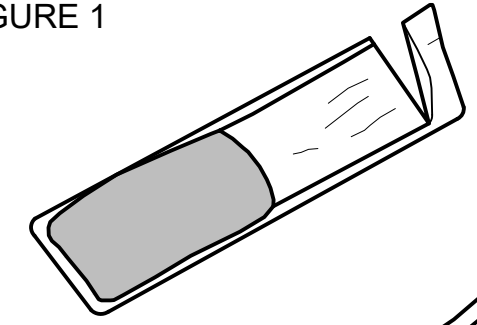

FIGURE 2
- 6 SQUEEZE RESIN TO ONE END OF BAG AND CUT OFF OTHER END. (FIGURE 2)